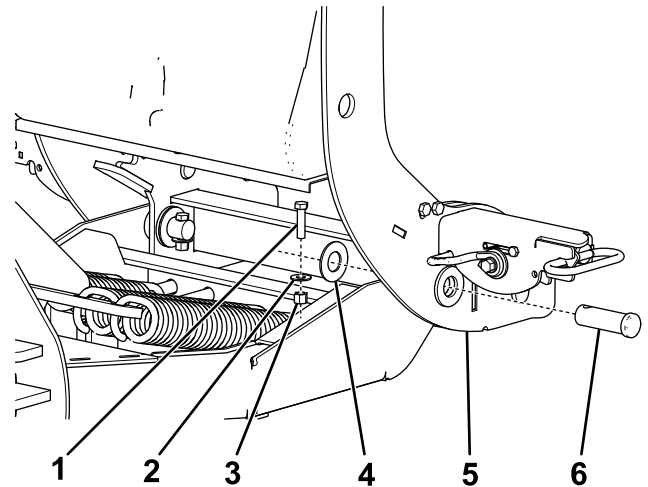

Figure 11
1. Align the pivot holes of the coupler tower with the pivot holes on the pushframe, and secure them with a clevis pin (1 inch), flat washer (1 inch), bolt (3/8 x 1-1/2 inches), washer (3/8 inch), and locknut (Figure 11).